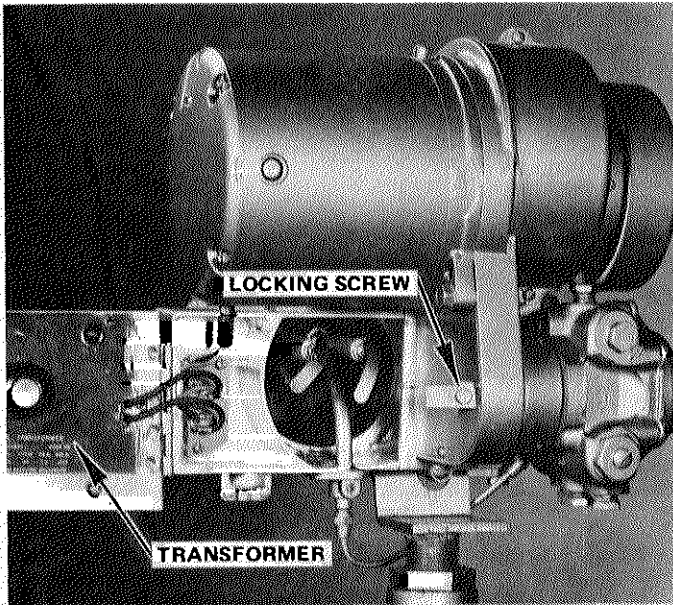

FIGURE 6
- 1 - Loosen locking screw, swing latch up and transformer out. See Figure 6.